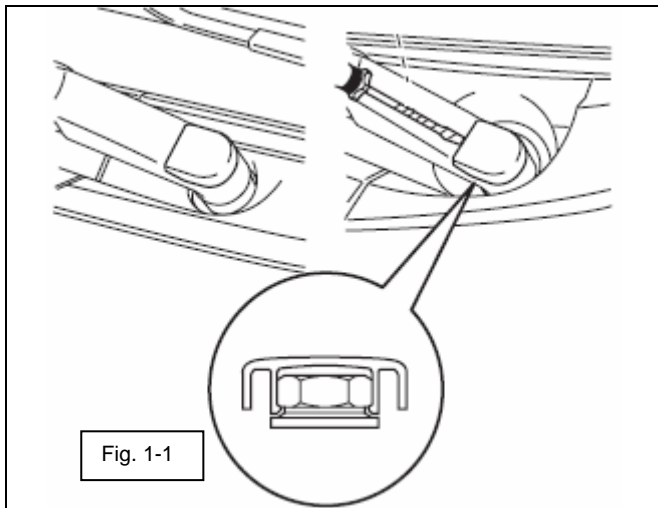

Fig. 1-1
(1) Remove wiper arm head caps with nylon pry tool or pull off with fingers. (Fig. 1-1)
(2) Remove nut and pull wiper arm off of wiper drive stud. (14mm)